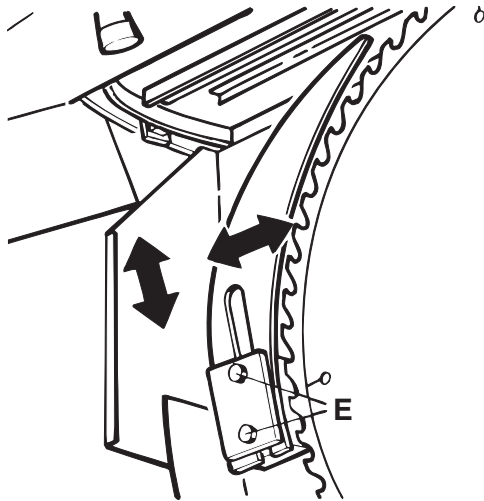

Fig. 25
- Never use the saw without a riving knife (splitter) in place behind the blade. To replace or adjust Fig. 25 and 26.